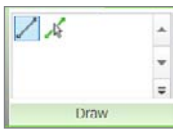
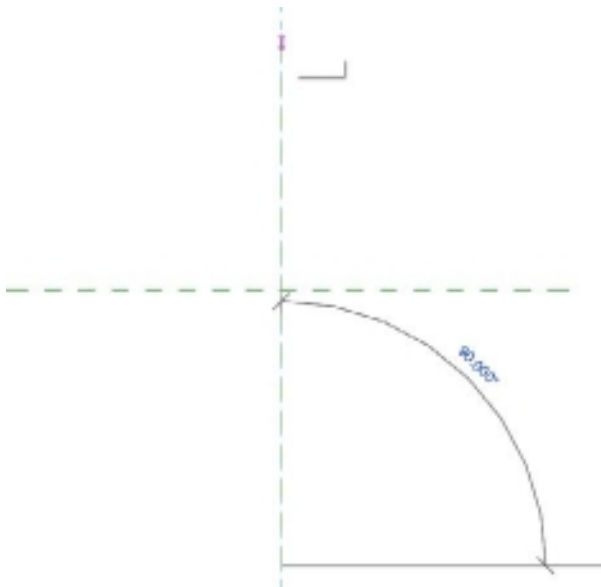

Figure 7.13
Figure 7.14
4. Choose the Ref Plane tool from the Home tab, and then use the Line tool from the Draw panel (Figure 7.13). Draw two reference planes, one horizontal and one vertical, as shown in Figure 7.14. Once you have completed the two reference planes, click Modify at the left end of the ribbon, or click the Escape key twice to return to Modify mode.